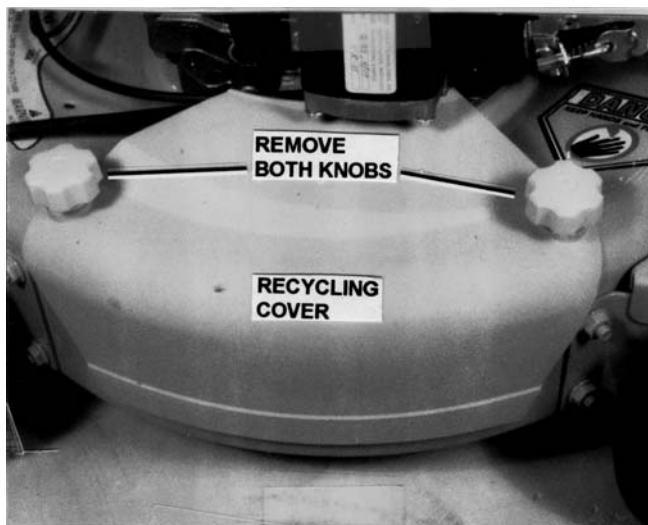
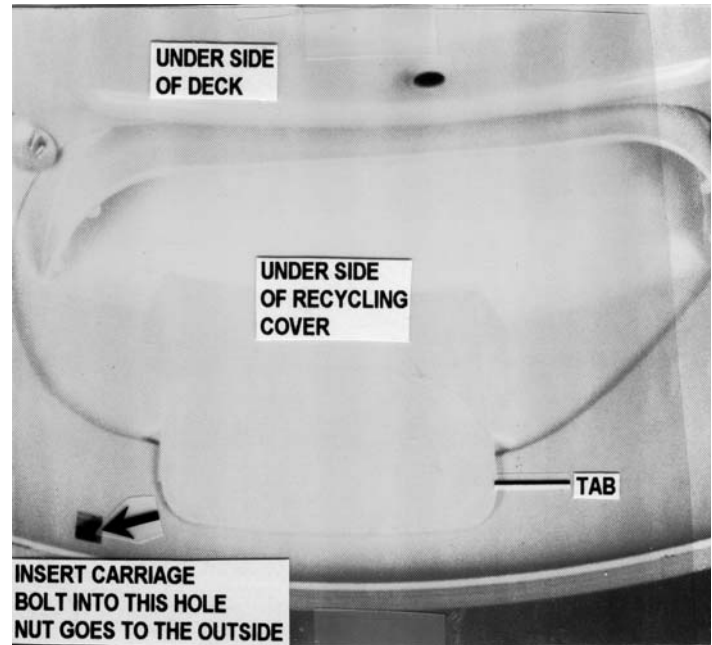

FIGURE 15
FIGURE 16
1. The recycling cover is fastened in place using two knobs. To remove the cover simply unscrew the two knobs and lift off the cover. See Figure 15. Note: When reinstalling the cover, the deck side wall should fit between the tab and outside of cover. Tighten knobs securely. See Figure 16.
1. The side chute is fastened in place using the same two knobs used to secure the recycling cover. There is also a carriage bolt and nut (Found in hardware bag) that secures the lower rear portion of chute. Use this bolt and nut on the side chute only. Tighten all bolts, nuts, knobs securely. See Figure 15 & Figure 16.